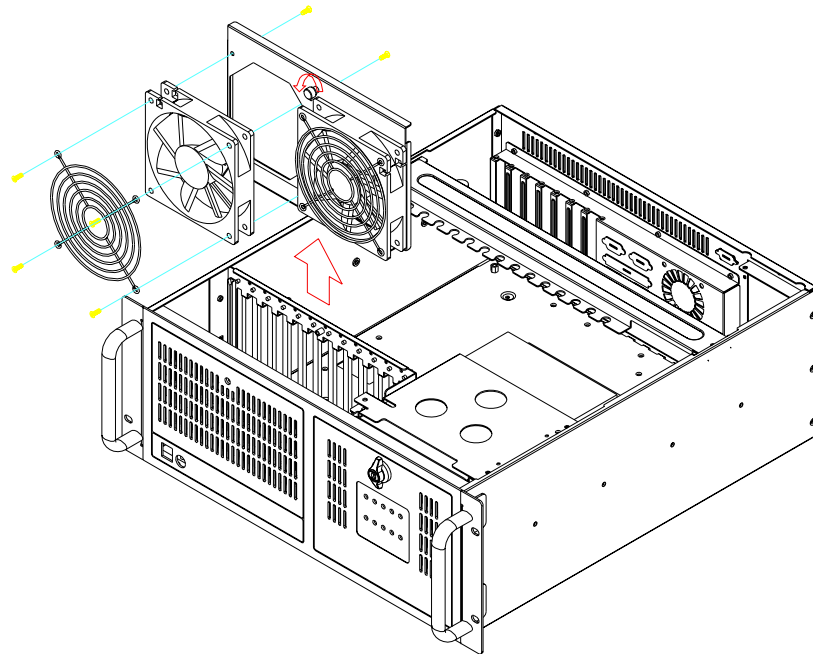

Figure 3.4 Replacing the cooling fan for ACP-4000/IPC-610-H
5. Fix the new cooling fan on the fan guard and the bracket by screwing in the eight screws. (see Figure 3.4)